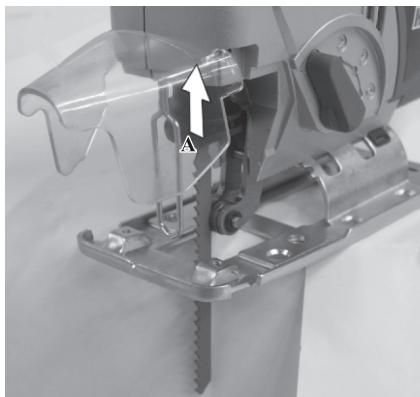

Fig. 2
6.2 Assembling saw blade (Fig. 2)
- Push the saw buckle clamp (Fig. 2, A) up and hold